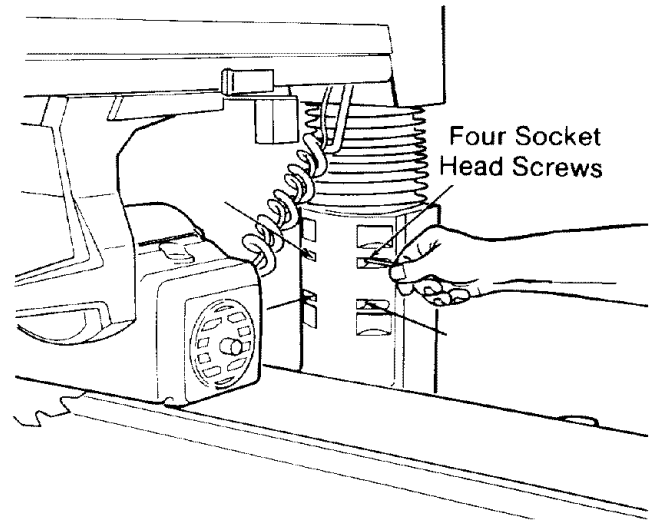

Fig. 96
1. Loosen the four screws in the front of the *column support*. (Figure 96)